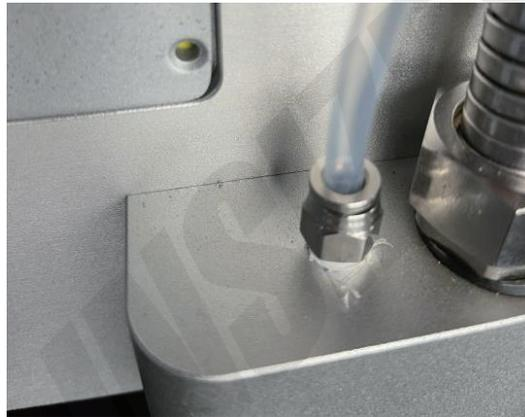

Figure 3-4 Argon inlet at the rear of the machine
Step 3: Connect the other end of the fluorine tube to the argon inlet of the instrument, as shown in Figure 3-4: